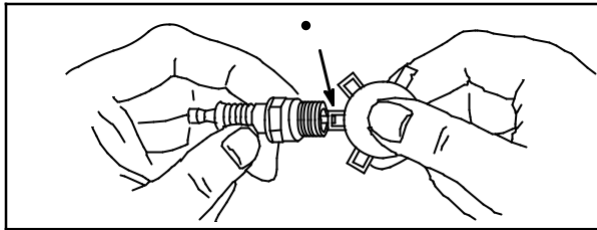

Fig. 47
Use a wire gauge (1) to set spark plug gap, Fig. 47.